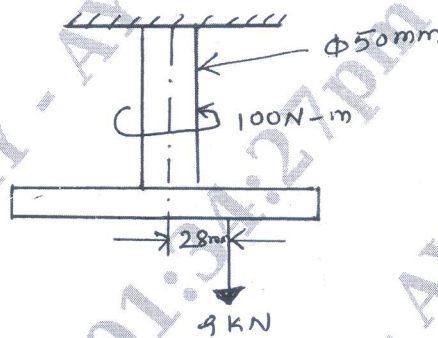

Fig.Q1(c)
c. A 50 mm steel rod supports a 9 kN load and in addition to this torsional moment of 100 N-m is applied on it as shown in Fig.Q1(c). Determine the maximum tensile and maximum shear stresses.